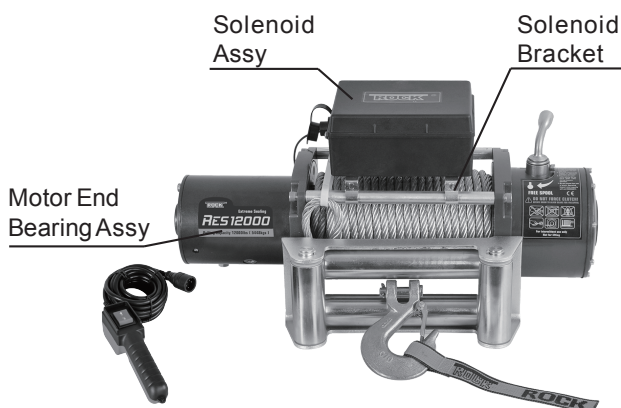

Fig.3
1). Firstly, put the winch on a mounting channel or flat surface. To attach the supplied Solenoid Bracket , remove the 2-Screws from the Motor End Bearing Assy.(See Fig.3)